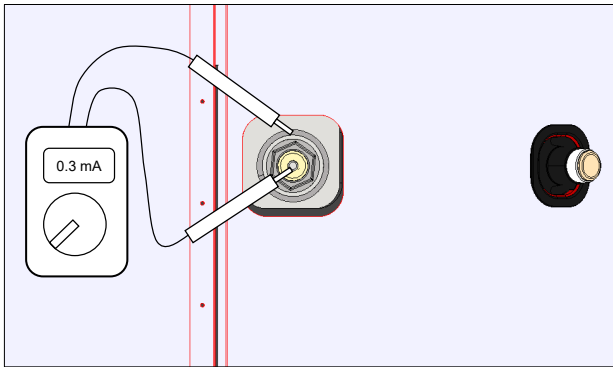

Figure 21 – Anode control
- 3) Disconnect the wire connection between the anode and the tank (figure 21).